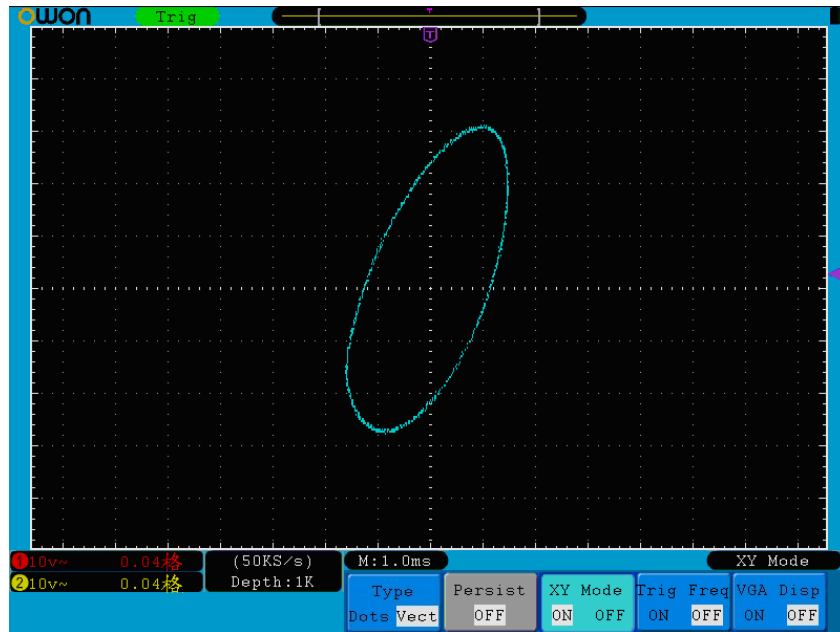

Figure 5-34 XY Display Mode
2. Press the **H3** menu selection button to set XY Mode **ON**. The display format is changed to be XY mode (see *Figure 5-34*).